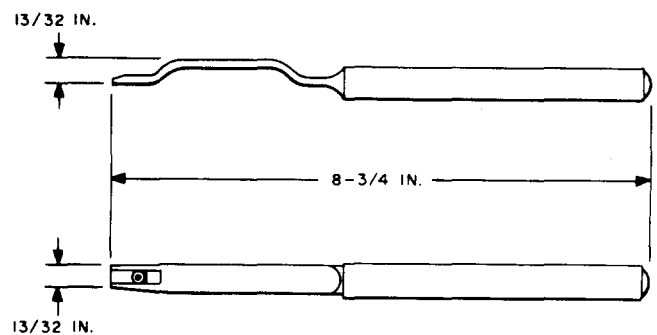

Fig. 2 — 611A Adjuster Tool
2.02 611A: The 611A tool (Fig. 2) is a relay hinge-bracket adjuster for use on U-, UA-, and Y-type relays having hinge pin-type armature suspension.